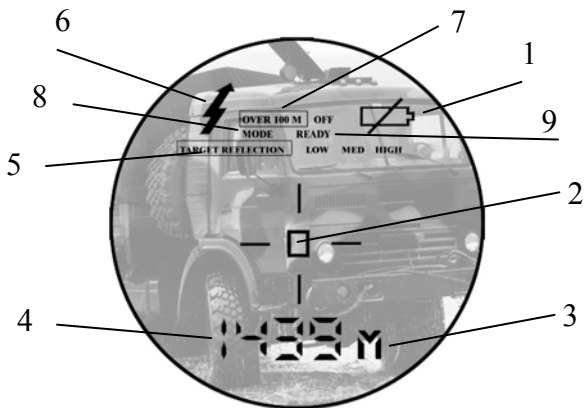

Fig. 3. Liquid Crystal Display as seen through the eyepiece
If results of distance or speed measurement are unreliable four dashes (‘----’) will be displayed in the area (4) (Fig. 3). For successful measurement the target must be at least 20 m away.